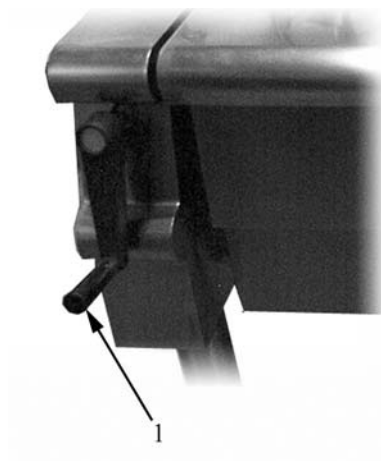

Fig. 4
- Turn the handle (item 1 in Fig. 4) in a clockwise direction.